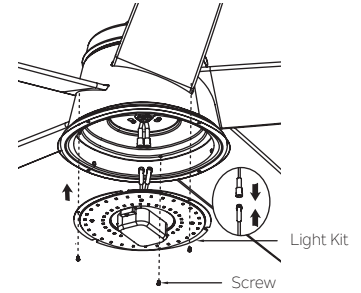

Fig. 21
**Step 1.** Connect the 2 single pin connectors from the light kit to the 2 single pin connectors from motor assembly. Align three round holes on the light kit with the holes on the switch housing, securely tighten with three (3) screws found in light kit hardware pack. (Fig. 21)